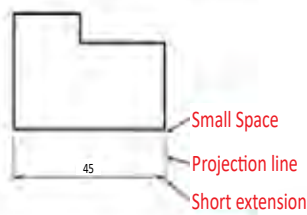

Fig. 1.2.5 Dimensioning system
- f. Dimensioning in drawing shall be performed with unique practice. Examples of dimensioning has been shown in the Fig. 1.2.5 and 1.2.6.